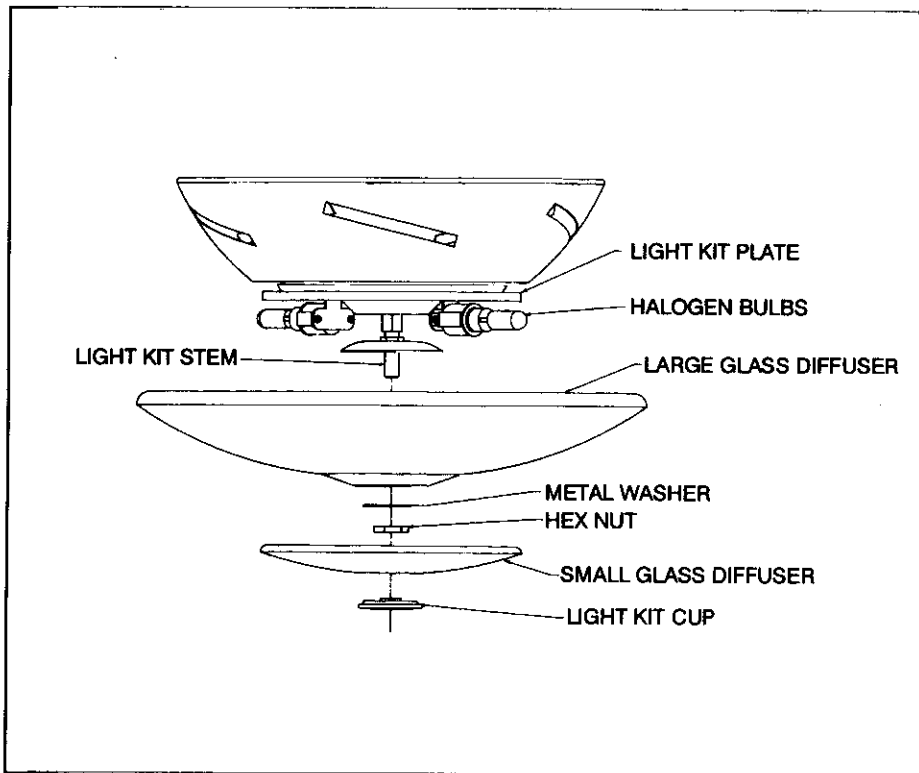

FIG. 17
Step 2. Insert the large glass diffuser onto the light kit stem and tighten with metal washer and hex nut provided with the fan, then insert the small glass diffuser onto the stem and secure it with the light kit cup. (Fig. 17)